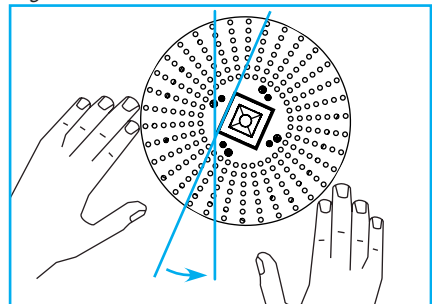

Fig. 16
**Important:** Square appliques require alignment. Use string line or laser level to obtain uniform or desired alignment between multiple fixtures or adjacent wall planes. (Fig. 16).